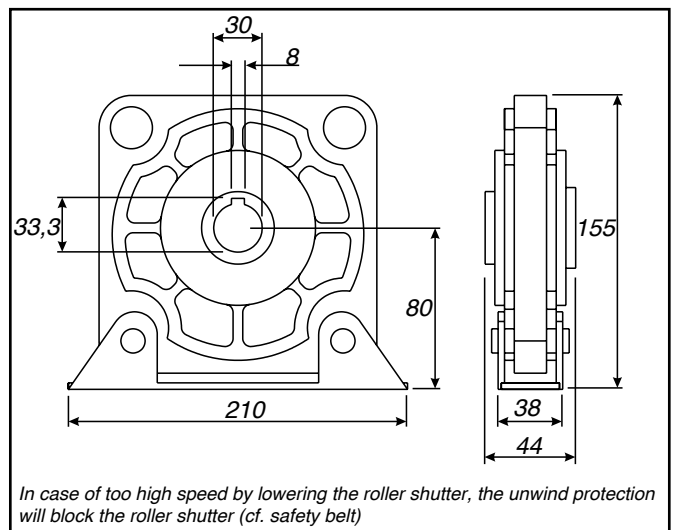

Fig. 16 : Unwind protection
- **Unwind protection:** see figure 16